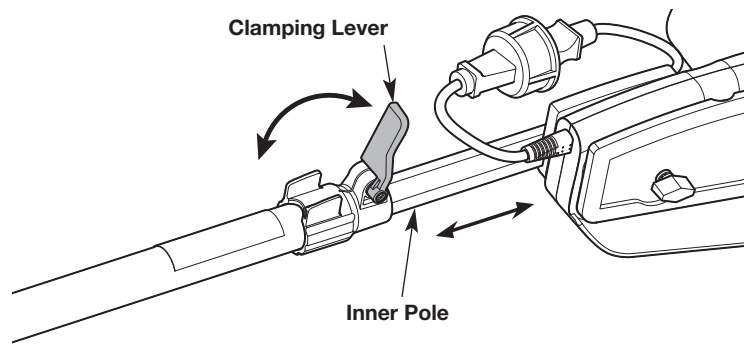

Fig. 4
1. Flip the clamping lever up (Fig. 4).
2. Slide the inner pole to the desired length (Fig. 4).
3. Flip the clamping lever down to lock the inner pole in place (Fig. 4).